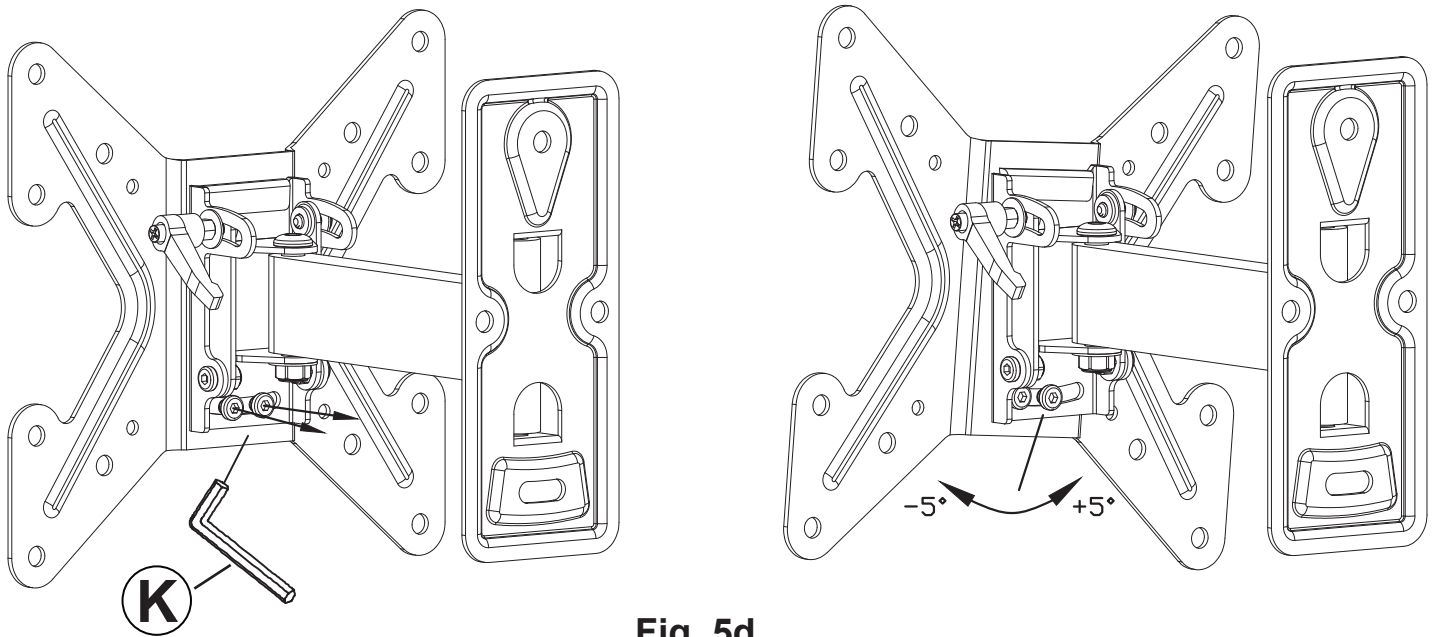

Fig. 5d
1. If necessary, the TV can be rotated from -5° to $+5^{\circ}$ by adjusting the two screws which connect the Wall Plate (1) to the TV Plate (2) as shown in Fig. 5d.
2. To adjust the rotation, loosen these two screws with the Allen wrench (K) about 1/2 turn each, and gently slide the TV Plate (2) to the left or right depending on your needs.
3. Once the TV Plate (2) is in the correct position, re-tighten the screws by turning the Allen wrench (K) clockwise.